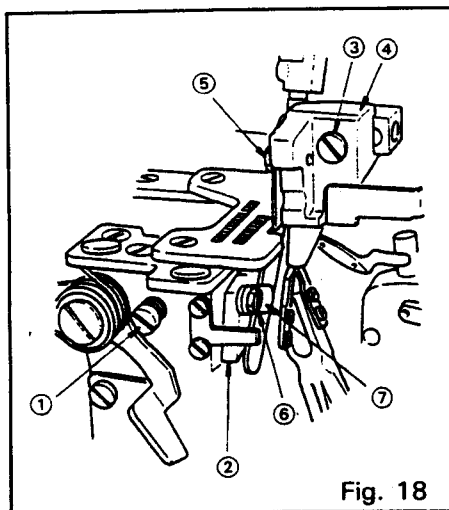
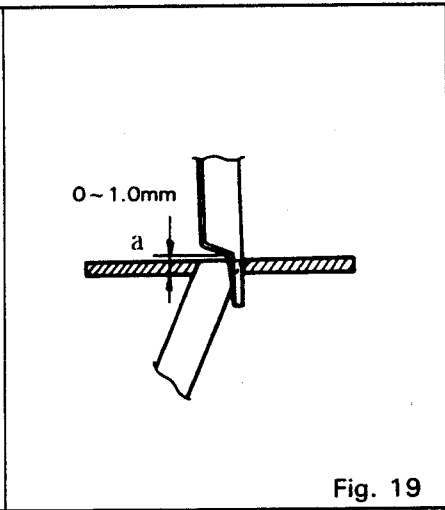

Fig. 18
Fig. 19
Changing the stationary knife (Fig. 18, Fig. 19 and Fig. 20)
- (1) Loosen set screw ① and move stationary knife holder ② to the left as far as it will go. Tighten set screw ① temporarily.
- (2) Loosen set screw ⑥ and remove stationary knife.
- (3) Insert a new stationary knife between the stationary knife holder ② and stationary knife clamp ⑦ and set the stationary knife so that top edge of the stationary knife is flush with the top surface of the throat plate as shown in Fig. 19. Then tighten set screw ⑥.
- (4) Turn pulley until the point (a) of the movable knife is positioned 0-1.0mm above the top surface of the throat plate, and then loosen set screw ①.
- (5) Make sure that the movable knife and stationary knife are in close contact with each other by spring pressure, and then tighten set screw ①.
- (6) Check sharpness of knife blade.
Changement de couteau mobile (Fig. 18, Fig. 19 et Fig. 20)